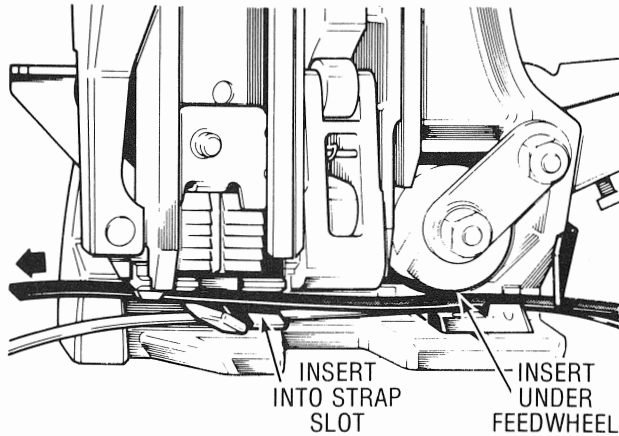

FIGURE NO. 3
3. Insert the top strap beneath the FEEDWHEEL (KEY #26) and into the strap slot of the CUTTER BLOCK (KEY #66). Pull excess slack from the strap. (SEE FIGURE NO. 3.)